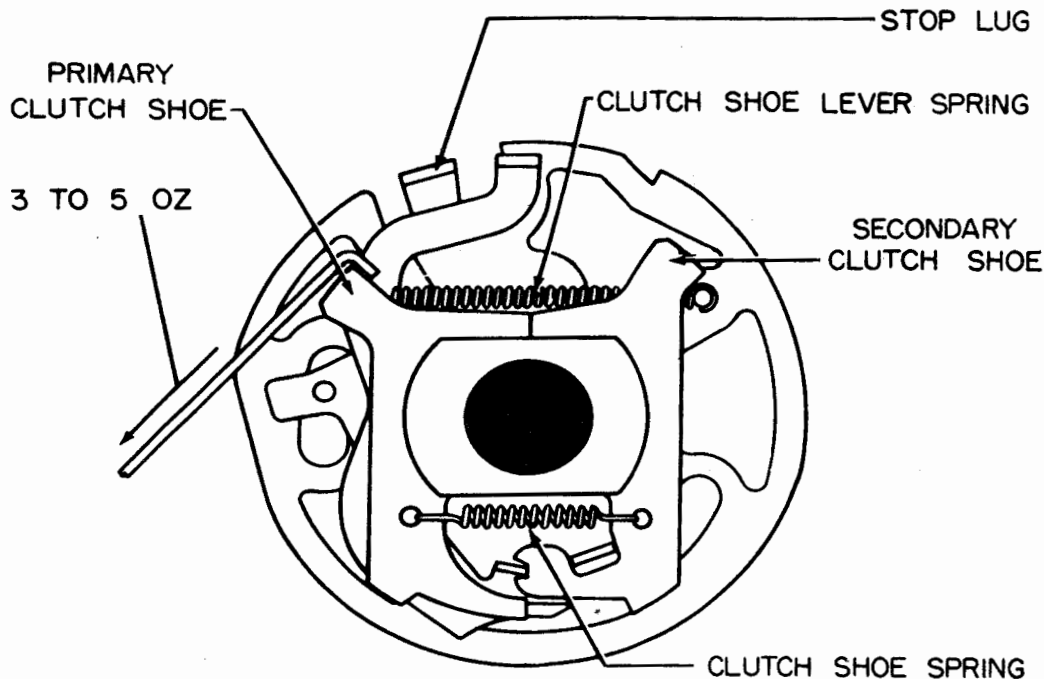

Figure 7
2.15 Clutch-shoe Spring: With the clutch drum removed and an 8-ounce scale applied to the primary shoe at tangent to the friction surface it shall require minimum 3 ounces, maximum 5 ounces to start primary shoe moving away from secondary shoe at point of contact. (See Figure 7.)